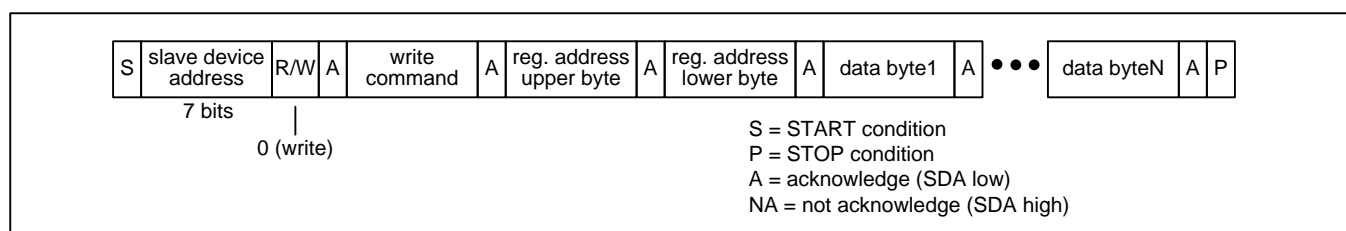

Figure 10 - I²C Register Write Transaction Functional Timing
Register Write Transactions. The device registers are accessible when the EESSEL bit is 0. The bus master does an I²C write to the device. The first three bytes of this transaction are the SPI Write command (see Table 3), the upper byte of the register address, and the lower byte of the register address. Subsequent bytes are data bytes to be written. After each data byte is received, the device writes the byte to the write address and then increments the write address. The bus master terminates the write with a STOP condition (P). See Figure 10.